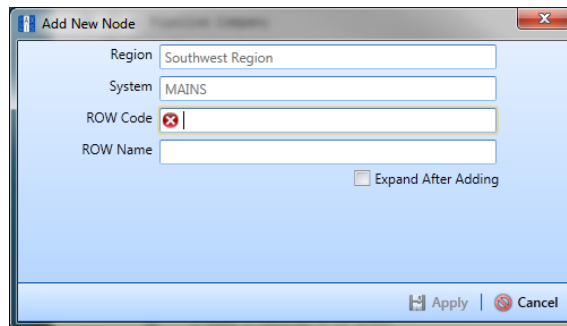

Figure 4-4. Add New Node
- 3 Click **+ Add** to open the *Add New Node* dialog box (Figure 4-4). Right-clicking the selected hierarchy folder and selecting *Add* in the shortcut menu also opens the *Add New Node* dialog box.
- 4 Enter a pipeline code for the new pipeline in the **ROW Code** field. Fields requiring information include a **X** red icon, such as *ROW Code* in the previous figure (Figure 4-4).